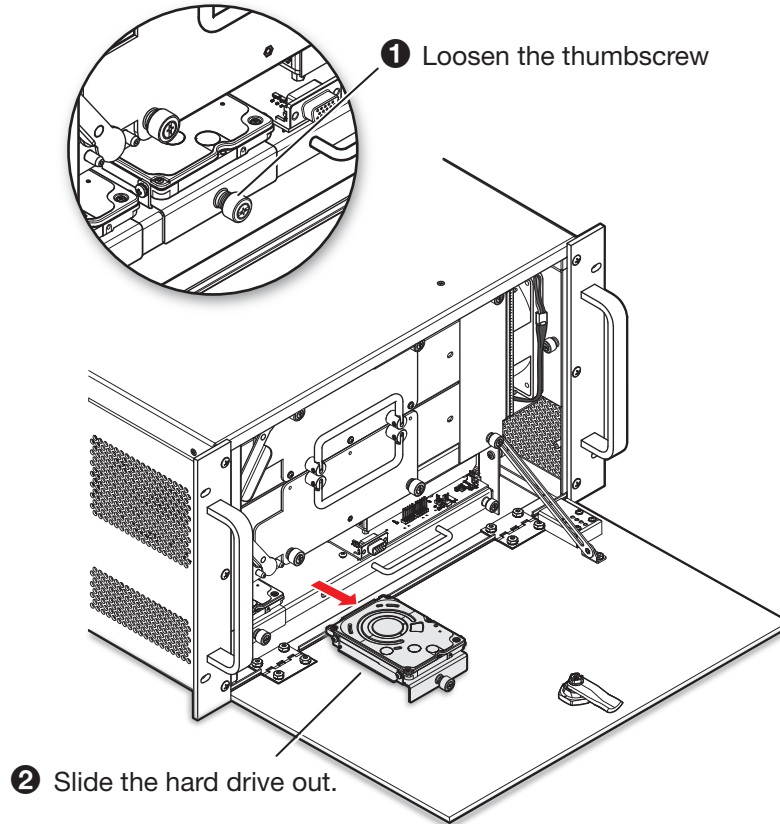

Figure 111. Removing the Disk Drive
2. Use a screwdriver to loosen the thumbscrew on the drive (see figure 111, ❶) by rotating it to the left.